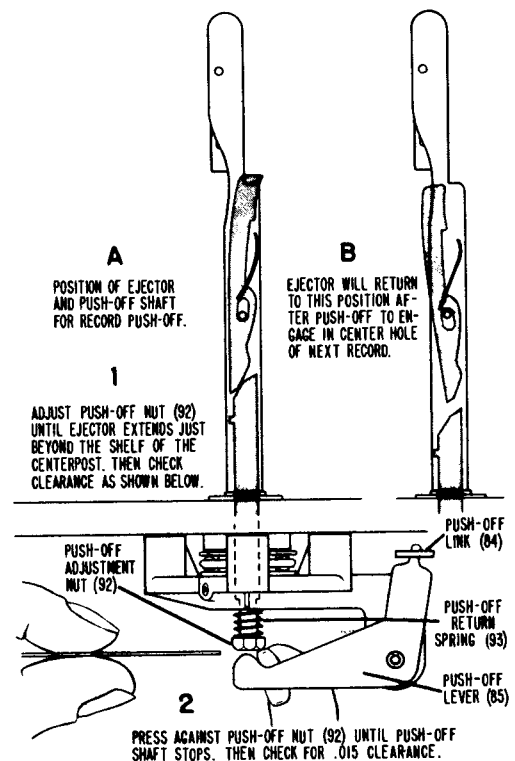

Figure 9. Adjusting for Correct Push-Off.
When the tone arm is clear of the turntable, the roller on the drive eccentric (82) engages the push-off link (84). The push-off link moves the push-off lever (85) which engages the push-off adjustment nut (92) on the end of the push-off shaft in the centerpost. As the push-off link is moved by the drive eccentric, the push-off lever moves the push-off shaft up into the centerpost. The push-off shaft engages the ejector and pushes it up and out at the shelf of the centerpost. See figure 9.
Ejector travel is adjusted by the hexagonal adjustment nut (92). With proper push-off adjustment, the ejector should extend just slightly beyond the edge of the shelf on the centerpost. See figure 9.
2. Continue rotating turntable slowly until the roller on the drive eccentric (82) engages the push-off link (84). Rotate turntable until the roller has moved the link its full distance. The push-off lever (85) is now extended its maximum travel.
3. Check the position of the ejector at the shelf of the centerpost. The ejector should extend *just beyond* the edge of the shelf. See figure 9. If the ejector does not extend beyond the edge of the shelf, turn the push-off adjustment nut (92) counterclockwise to increase the amount of push-off. Use a  $\frac{1}{4}$ " open-end wrench for this adjustment.
2. Check for weak push-off return spring (93).
3. Check the push-off adjustment. See figure 9.